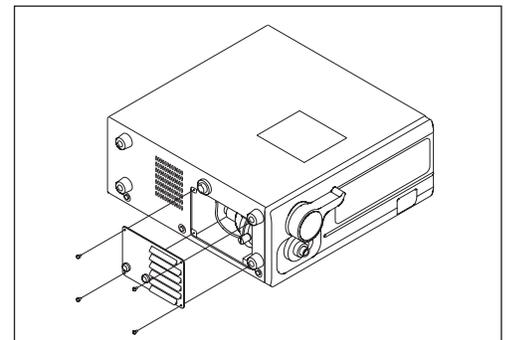

Fig.1
4. Attach the lamp housing cover and ensure that the cover does not make contact with or close upon the cable (Fig.1).